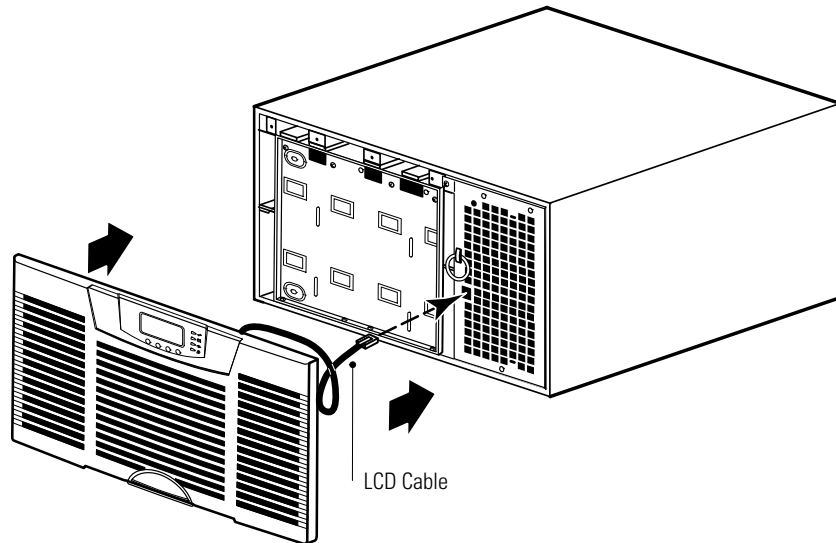

Figure 54. Installing the UPS Front Cover
5. Install the UPS front cover (see Figure 54):